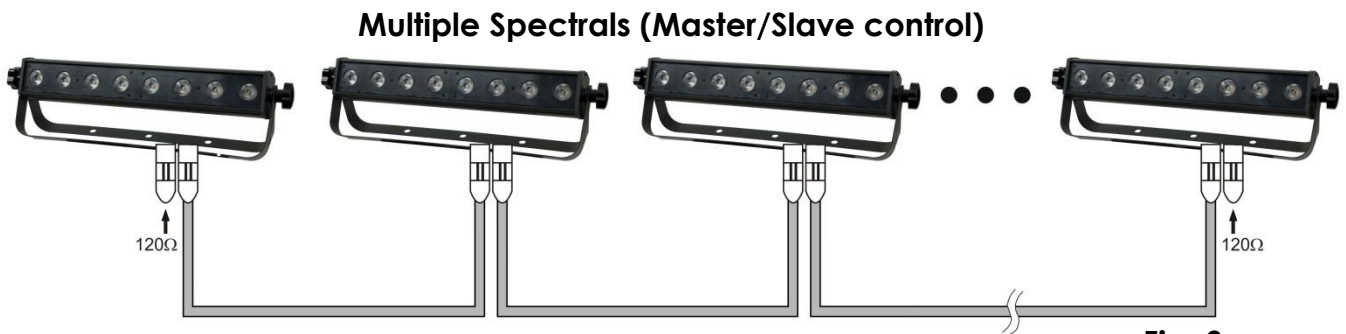

Fig. 3
3. Link the units as shown in (Fig. 3), Connect a DMX signal cable from the first unit's DMX "out" socket to the second unit's "in" socket. Repeat this process to link the second, third, and fourth units. You can use the same functions on the master device as described on page 13+14 (Static Colors or Built-in Programs). This means on the master device you can set your desired operation Mode and all slave devices will react the same as the master device.